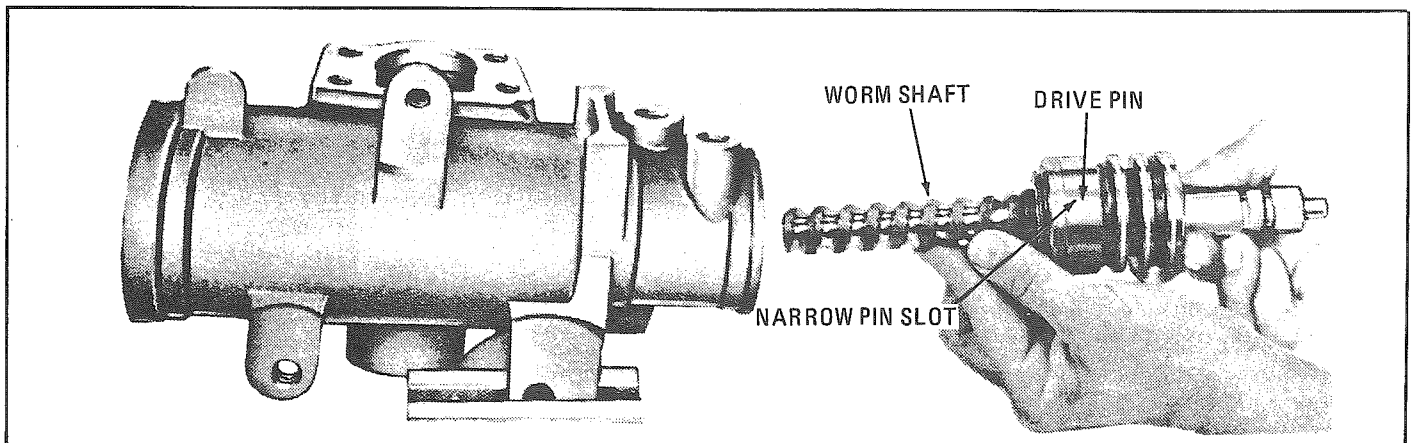

Figure 145 – Installing Valve and Worm Shaft Housing
12. Remove the adjuster plug using spanner wrench number T65P-3A537-A (see figure 145).
4. Place the Tool R65P-3A537-B, adjuster plug seal protector, over the end of the stub shaft (see figure 145).
5. Lubricate a new adjuster plug "O"-ring with Power Steering Fluid, C1AZ-19582-A, C, D, or equivalent, and install in groove on adjuster plug. Place Seal Protector T65P-3A537-B over stub shaft, then install the adjuster plug assembly in the housing until it seats against the valve body (figure 145). Remove Seal Protector.
1. Lift the adjuster plug off the stub shaft (see figure 145).
2. Pry the thrust bearing retainer off the adjuster plug as shown in figure 145. **Be careful not to score the roller bearing bore.** Discard the retainer.